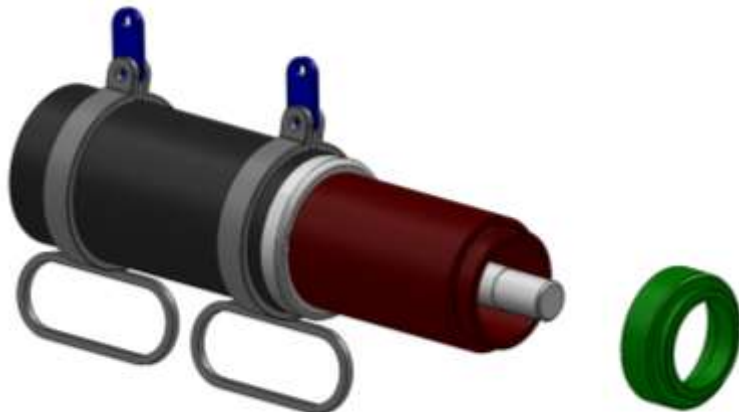

Figure 3.3-1
1. Thread jaw onto the extension tube of the Jumbo Brute Puller Unit (see Figure 3.3-1). **NOTE:** JB-30 series of Puller Units do not have an extension tube. The jaw threads onto the faceplate. The faceplate is attached directly to the main cylinder with screws.